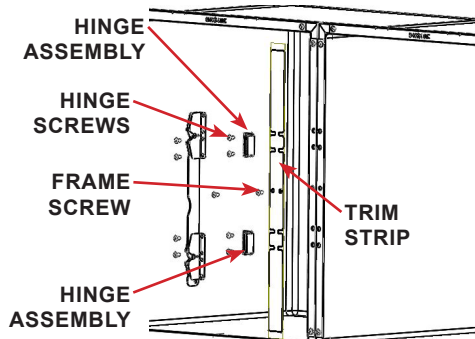

FIGURE 2.40 - Trim Strip Installation
STEP 17: Remove the latch, hinges and center frame screws to install a trim strip by following Phase I-STEP 18-20. See FIGURE 2.40